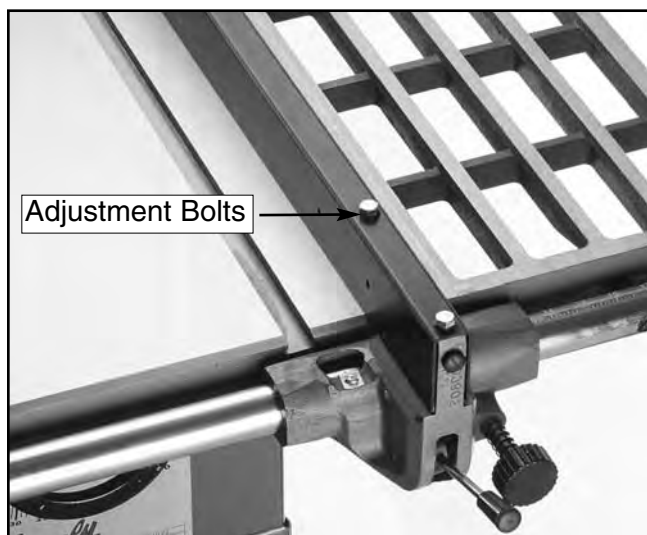

Figure 34. Adjustment bolts for fence parallelism.
4. Loosen the adjustment bolts at the top of the fence shown in **Figure 34**. Move the straight portion of the fence until it is parallel with the miter slot from front to back. Retighten the bolts.